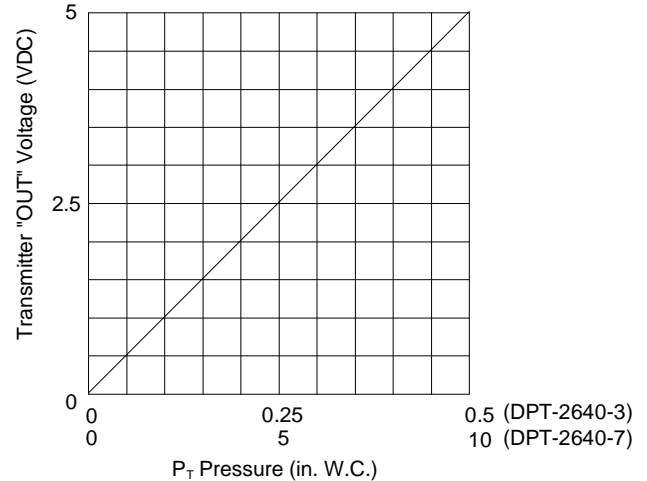

Figure 7: Transmitter Voltage vs. Pressure
- b. Connect the DC voltmeter (+) lead to the P352P "SN" terminal and the (-) lead to the "C" terminal; then, using Figure 7, convert the voltage to pressure (P_T).
Note: A transmitter output of 0 to 5 VDC should correspond to a pressure of 0 to 0.5 in. W.C. for the DPT-2640-3 or to a pressure of 0 to 10 in. W.C. for the DPT-2640-7 (see Figure 7).